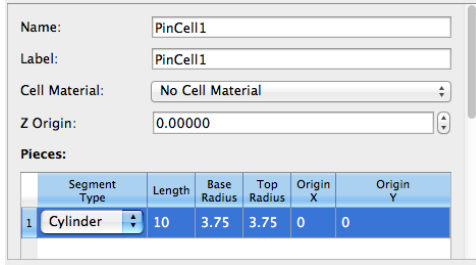

Figure 5.8: Confirming our cylinder's configuration.
Then, confirm that our segment type is a cylinder, and that the sum of the length of the segments is equal to the length of the duct (10) (Figure 5.8).